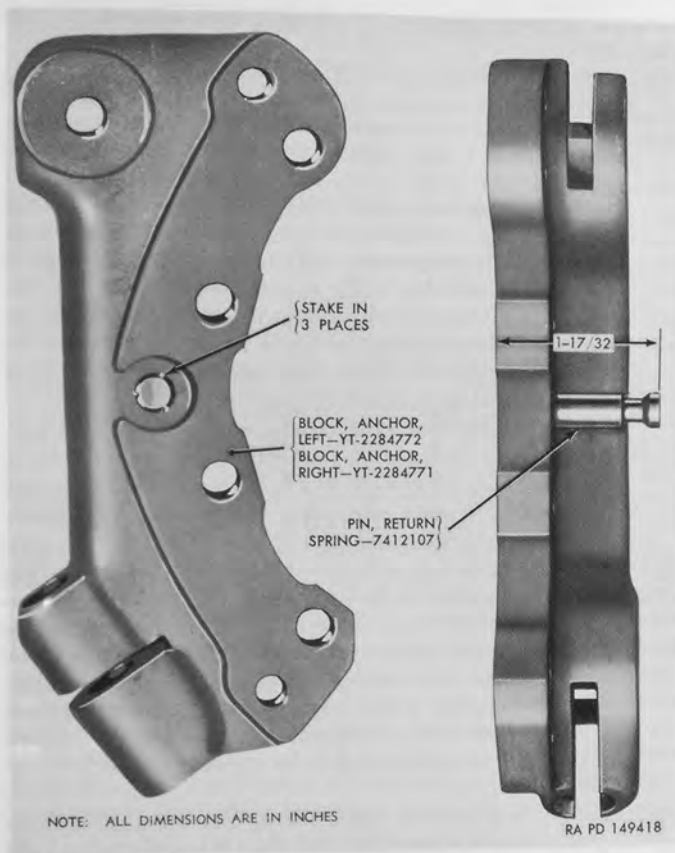

Figure 166. Return spring pin installed in anchor block.
- (6) Remove lining applier; then drill and countersink balance of holes and install rivets. Make sure lining fits firmly against shoe and that rivets are properly upset.
b. Return Spring Pin Replacement.—Press return spring pin (JJ) out of anchor block (CC) from inner side. Press new pin into anchor block to position shown in figure 166 and stake in place at three points.